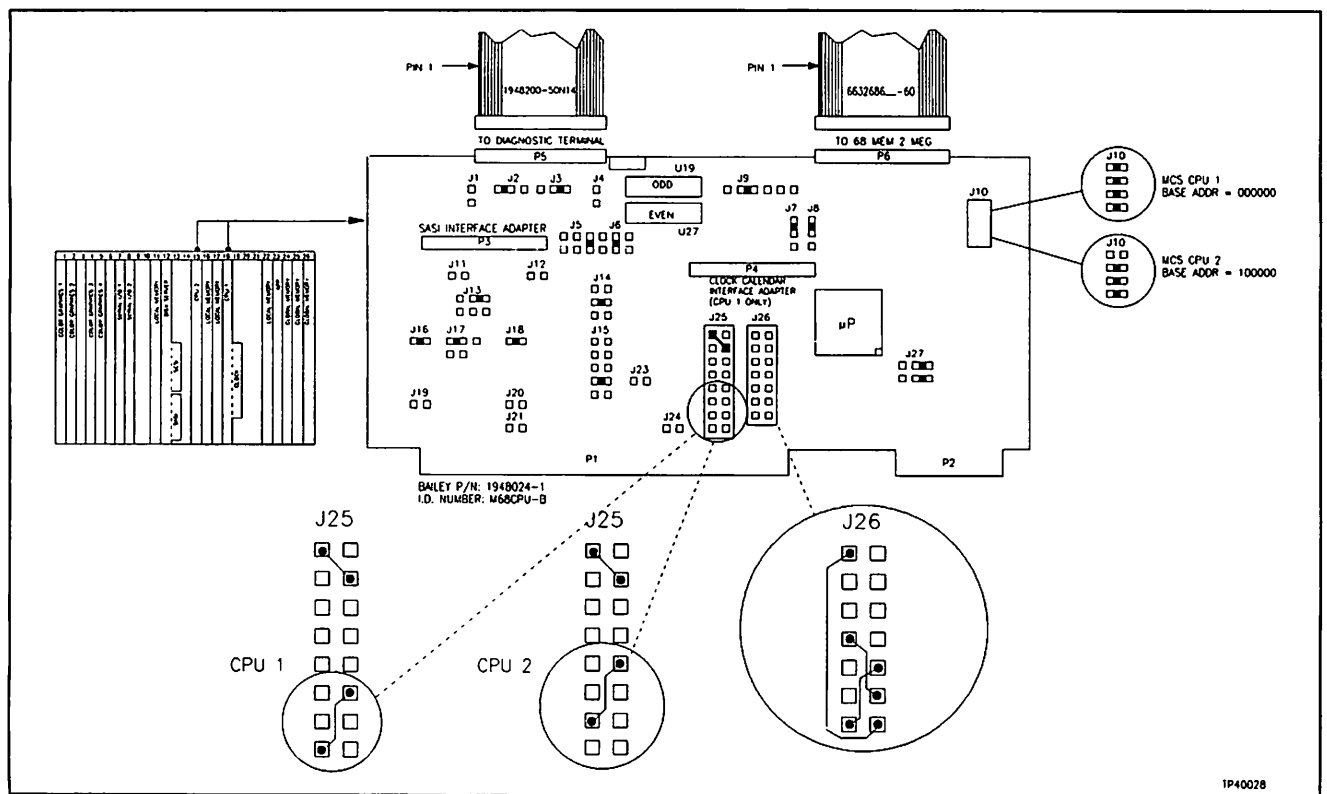

Figure 4-39. CPU 1 Card
6. Add a wire wrap jumper to J26 of the CPU 1 board as shown in Figure 4-39.